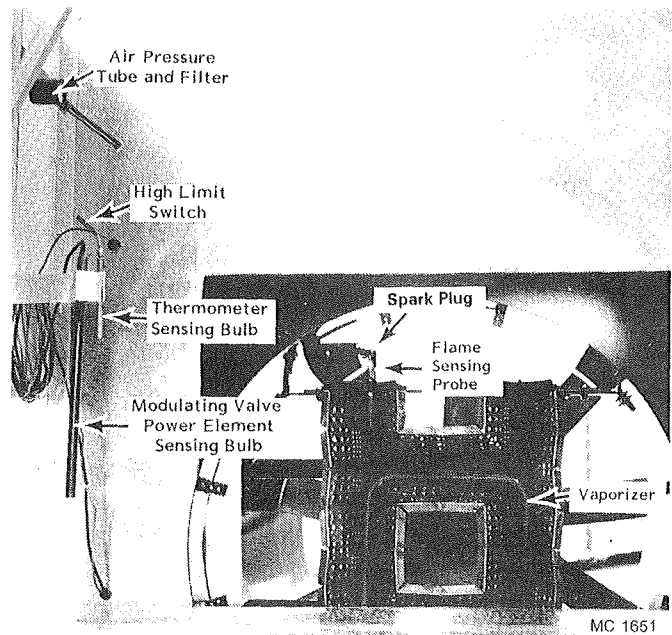
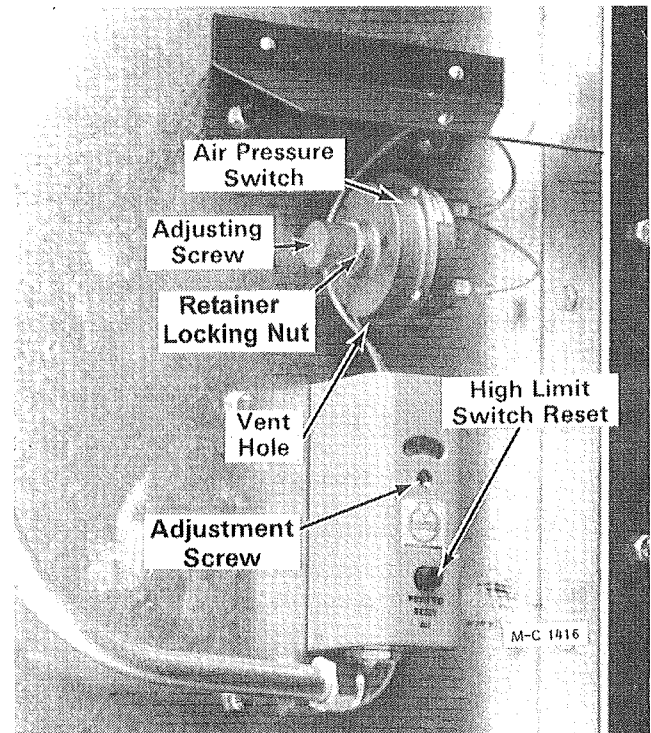

Figure 41 - 6 MBTU Burner - 320 & 520
Figure 42
6. Remove the air pressure switch(es) and clean the tube and filter. See Figure 41. Be sure the vent hole in the bottom of the air pressure switch is open, see Figure 42.
5. Turn on the electric power supply to the dryer and turn the Power On Switch to ON. The Power On Light and High Limit Light(s) will be on. If any high limit light is not on, push the reset button on that high limit switch, see Figure 42.
6. Start the bottom burner fan, the air pressure light will be ON. When the fan comes up to speed, open the burner gas manifold hand valve ¼ of the way. Be sure Burner Switch is in the LOW position. Turn the ignition switch ON. After a (15) second delay the gas valve light will be ON and the burner will light.